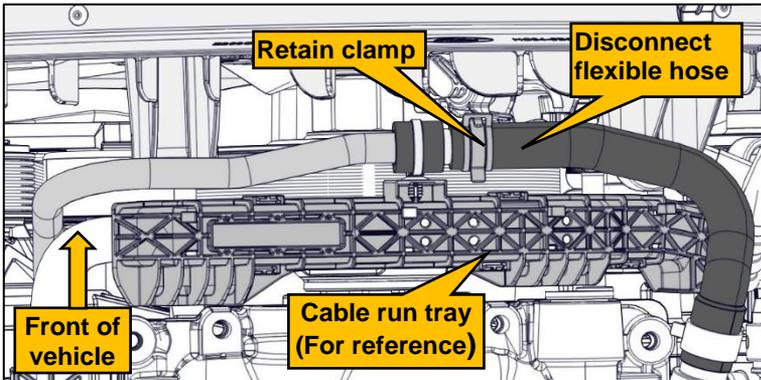

Figure 2 – Disconnect the heater return hose
- Disconnect the small flexible hose secured to the cable run tray on the front of the engine, above the steering linkage, from the metal coolant tube. Retain the OEM spring clamp (Figure 2).